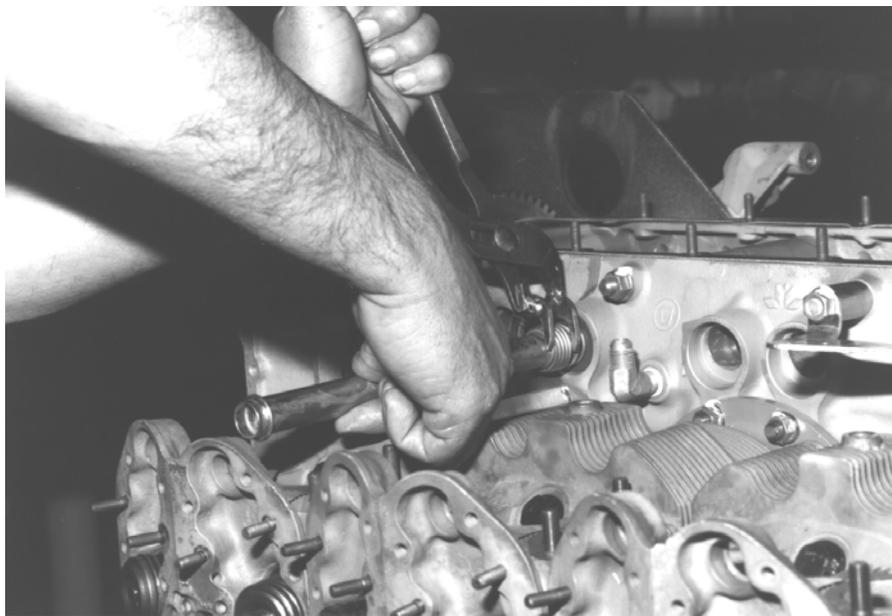

FIGURE 19-18. GENERAL VIEW INSTALLING PUSHROD HOUSING
3. Install twelve pushrod housings. Install the pushrod housings nearest to engine mount brackets first. The spring compressor tool must lie close to horizontal in order to clear the crankcase flange. Using a Borrough's 68-3 Rod Spring Compressor or equivalent, compress spring (38). Place a new packing (40) between two steel washers (39) and install on the crankcase end of pushrod housing. Place a new gasket (37) on the cylinder end of pushrod housing. Insert housing into crankcase guide until other end can be aligned with cylinder head opening. Move assembly outward until gasket has entered cylinder hole.
4. Release spring slowly until it is free. Remove spring compressor. See Figure 19-18, "General View Installing Pushrod Housing."
5. Lubricate pushrods (41) with clean 50 weight aviation engine oil and install through cylinder openings into housings (36).